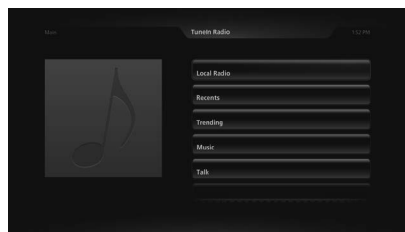

Figure 22
4. Refer to figure 22 on the next page, then press the ►|| (SELECTS) Push-button to select Local Radio.